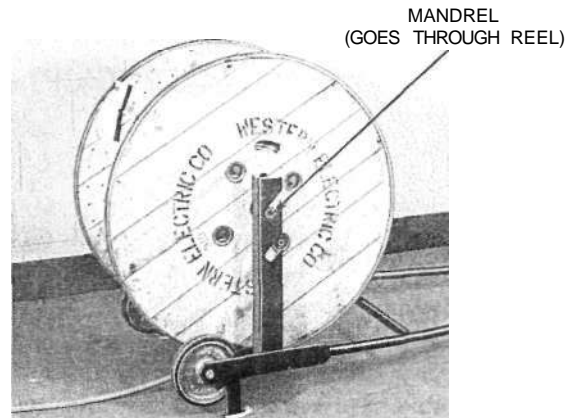

Fig. 3—Unreeling Position
- (g) To dispense cable from the reel the truck handles are placed on the floor (Fig. 3).